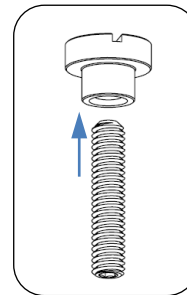

Fig. 4 – thread 1-1/2” set screw into plug
3. Thread 1-1/2” long set screw from hardware pack into plug, see Fig. 4.